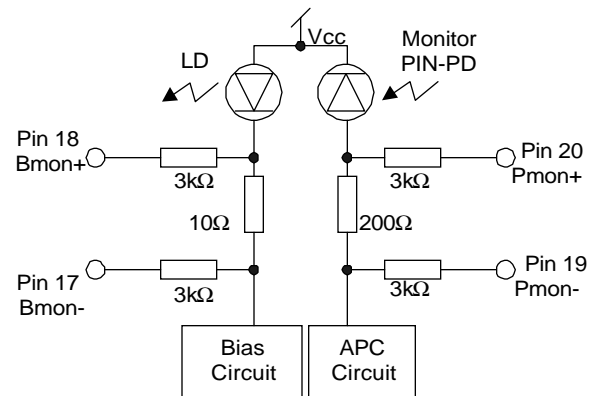

Figure 3 Bmon and Pmon Interface
2. Refer to figure 3 for details of Bmon and Pmon outputs.
8. The Laser Bias Monitor Current and Rear Facet Monitor Current are calculated as ratios between the corresponding voltages and current sensing resistors, 10 $\Omega$  and 200 $\Omega$ , as shown in the figure 3.